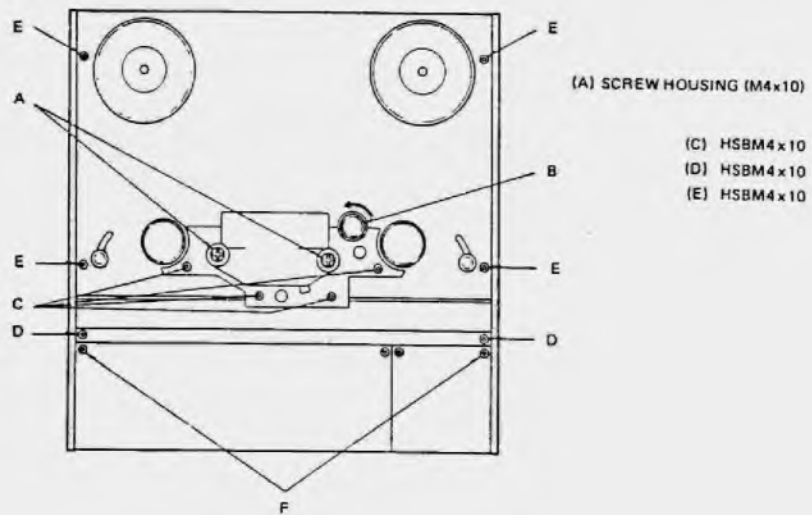

Fig. 6.2
6.2 TAPE TRANSPORT PANEL (Fig. 6.2)
- * Remove the head housing by unscrewing the two housing screws (A) with a coin.
- * Rotate the pinch roller cap (B) CCW to remove it and then take off the pinch roller.
- * Remove the four screw (C) and the head base panel can be lifted out.
- * Loosen screw (D) and the panel display and the panel function unit can be lifted out.
- * Remove four screw (E).
6.3 AMPLIFIER PANEL (Figs. 6.2 and 6.3)
- * By removing two screw (F), the amplifier panel hinged at the lower side, can be swung down to make adjustments on other than METER CAL and REC CAL from the front side.